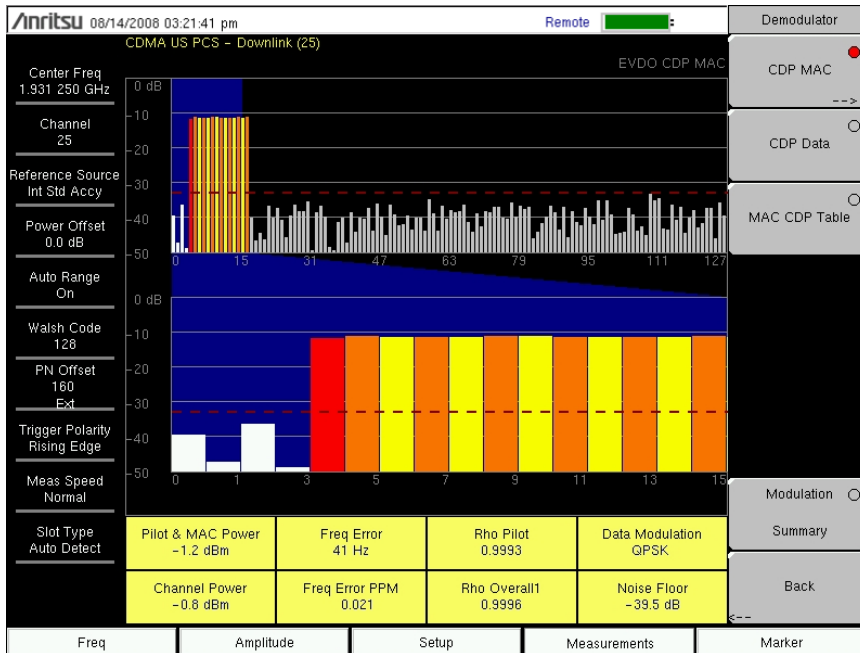

Figure 3-6. EVDO CDP MAC
- Pressing this submenu key displays the CDP MAC codes (Figure 3-6). The lower part of the screen displays the zoom codes.